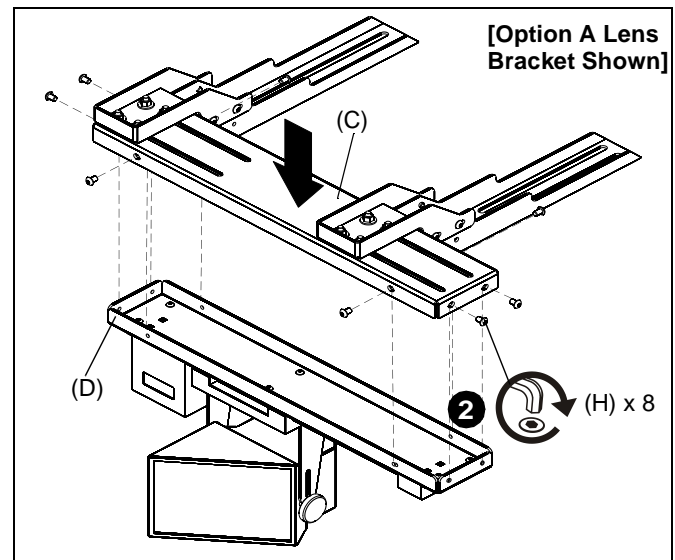

Figure 4
2. Attach top front plate (C) to bottom front plate (D) (with lens bracket) using eight 1/4-20 x 3/8" button head cap screws (H). (See Figure 4)